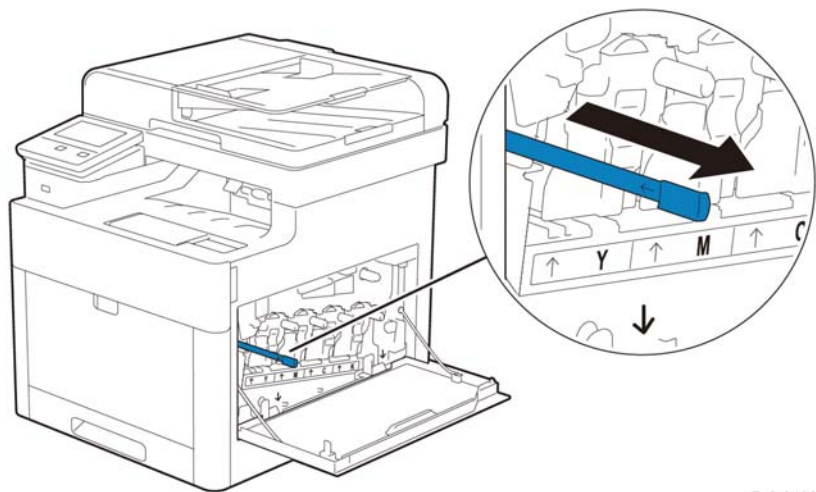

Figure 5 Pull out the cleaning rod.
6. Pull out the cleaning rod from inside the machine, Figure 5.